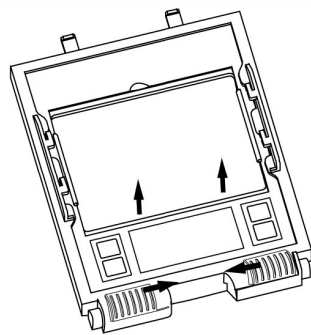
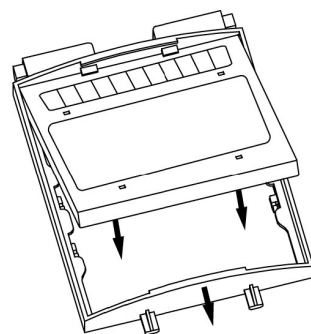

FIG. 9
FIG. 10
- To replace the external protection lens remove the filter cartridge (Fig. 9) by unlocking the holder locks below the cartridge toward the center.
- To replace the filter, remove the filter cartridge from the helmet (Fig.9). Make the top side of the support flexed and remove the filter (Fig. 10). Install